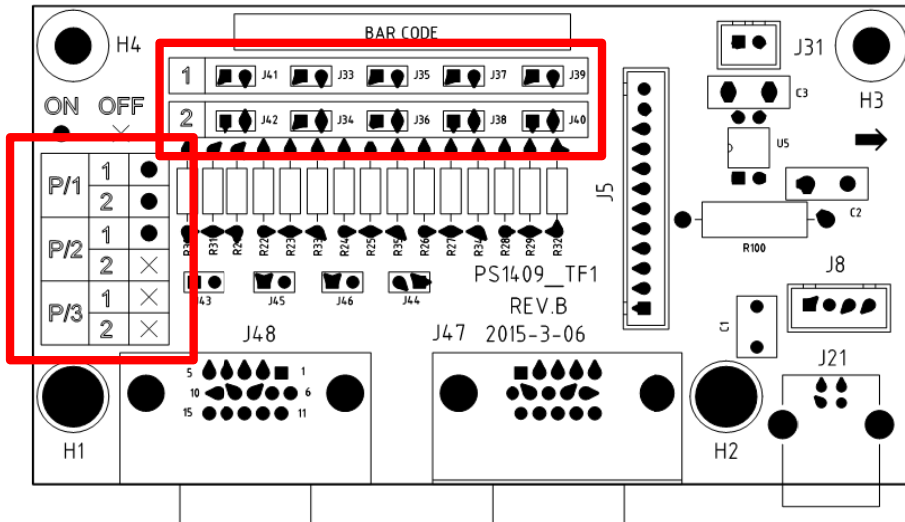

Figure 4 Jumpers on Parallel board (PS1409_TF1)
- The location of jumpers on these 2 PCBs are shown in figure 4 & 5.